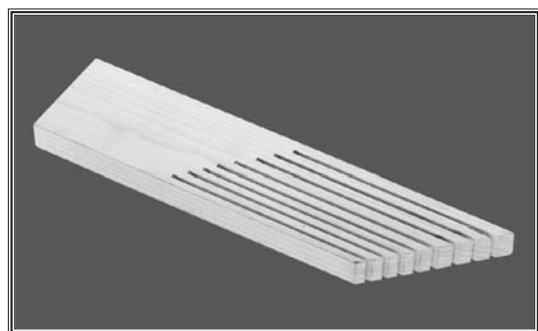

Figure 90. Anti-kickback featherboard.
- **Featherboards** similar to the one in Figure 90 make good anti-kickback devices. To use these, they must be clamped to the table or fence. The angled ends and flexibility of the fingers allow the workpiece to move in one direction and lock up if the workpiece moves backwards.